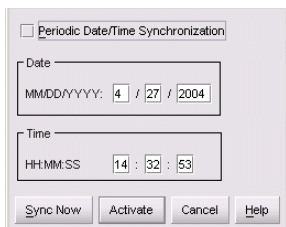

Figure 14 Configure Date and Time (manually) dialog box
- To set the switch with a specific date and time, make sure that the **Periodic Date/Time Synchronization** field is not selected, as shown in Figure 14. Enter the date and time, and then click **Activate**.